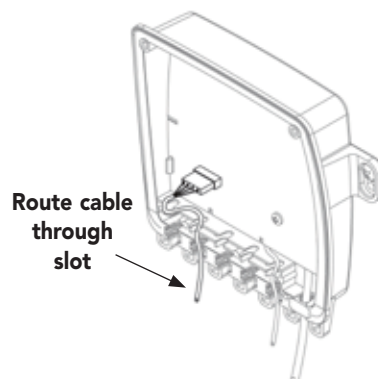

Figure 18
3. Route the control cable through an empty slot in the lower portion of the control box's housing (Figure 18).